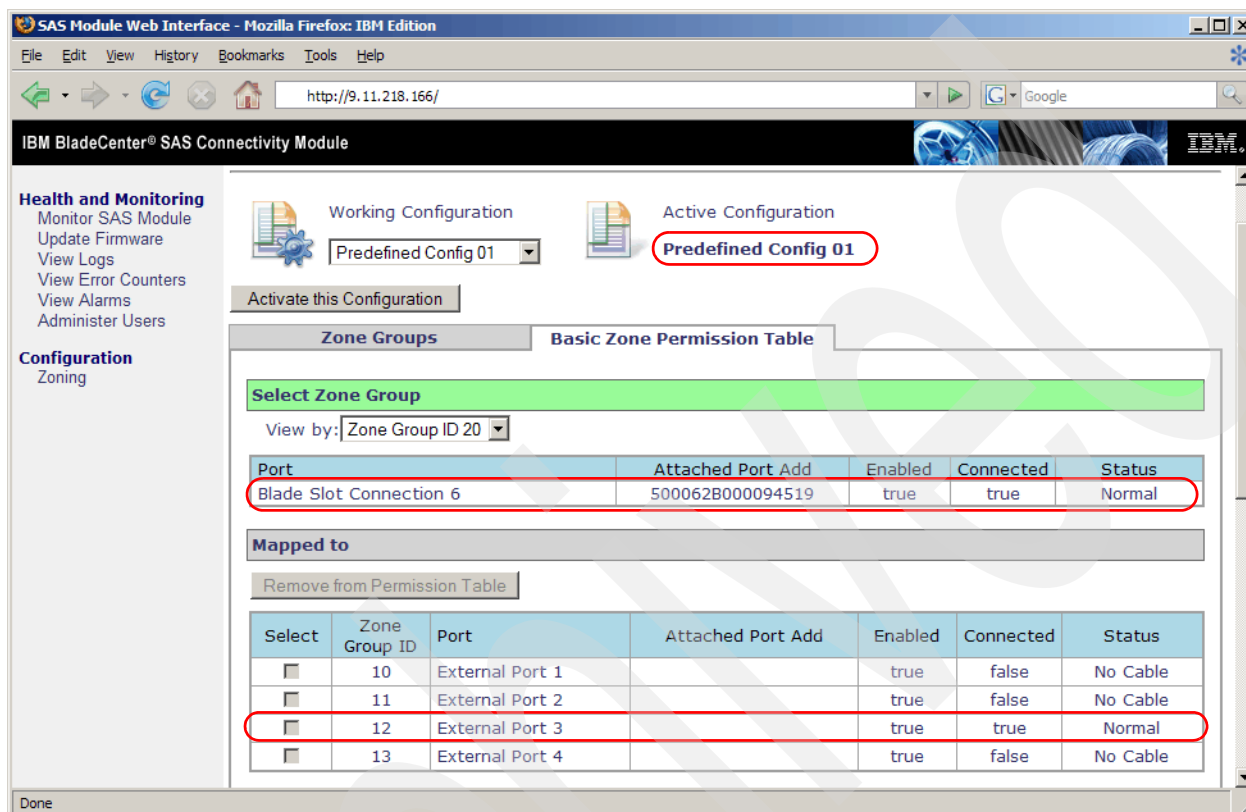

Figure 20-41 SAS Connectivity Module - Confirm zone configuration
2. Verify that the active zone configuration on the SAS Connectivity Module in I/O module bay 4 includes the host port in blade slot 6 and the external port to DS3200 System Storage subsystem controller B. This is done by logging on to the Web interface of the SAS Connectivity Module in bay 4 and viewing the “Predefined Config 01” zone configuration, as shown in Figure 20-41.